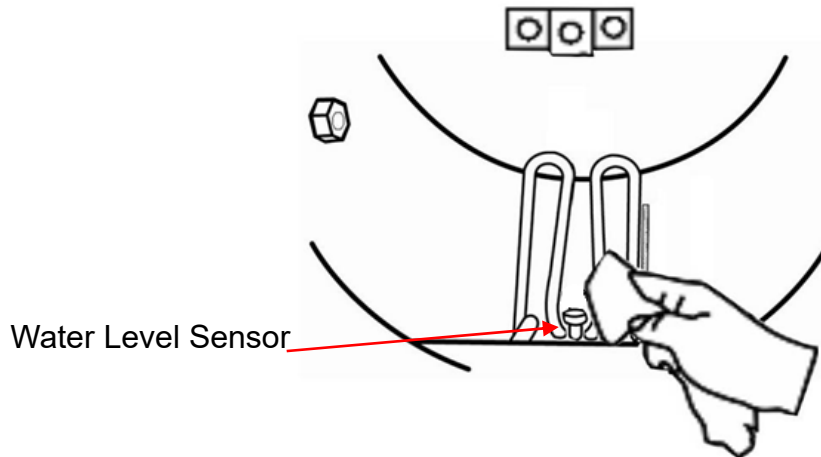

Figure 177
- Use the non-corrosive cleaner and stiff bristled brush or sponge to clean the water level sensor at the rear of the chamber as shown in Figure 177.